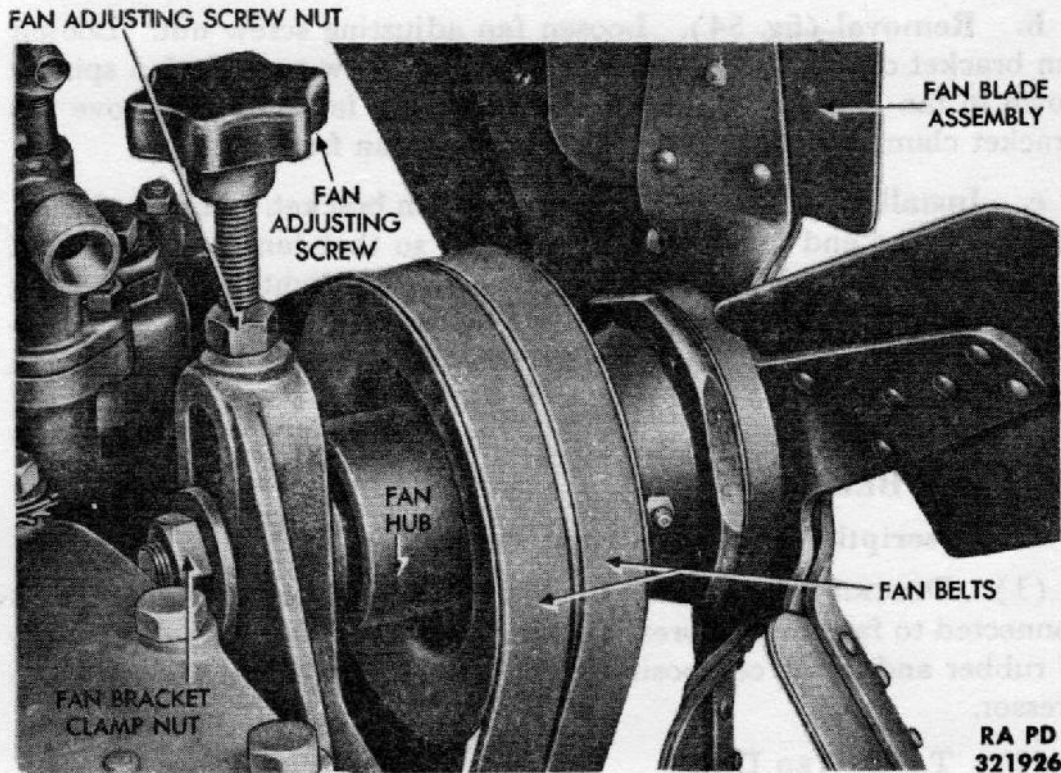

Figure 54 — Fan Belt Adjustment
(1) **DESCRIPTION** (fig. 54). The fan is mounted on a bracket at front of the engine. It is a roller bearing type, and is belt driven by a double V-belt pulley on the engine accessory shaft. Its purpose is to cool liquid coolant by drawing air through the radiator core and by keeping air circulating through the engine compartment.
b. Removal (fig. 54). Loosen fan adjusting screw nut. Loosen fan bracket clamp nut. Turn fan adjusting screw to force fan spindle down in fan bracket. Remove fan belts from fan hub. Remove fan bracket clamp nut and clamp washer. Lift fan from bracket.
c. Installation (fig. 54). Position fan in bracket. Loosely install clamp washer and fan bracket clamp nut so that fan may be moved freely in bracket. Place fan belts on pulleys. Tighten fan adjusting screw until fan belts flex $\frac{1}{2}$ to $\frac{3}{4}$ inch when pressed with fingers midway between pulleys. Tighten fan bracket clamp nut. Tighten fan adjusting screw nut.
(1) **DESCRIPTION** (fig. 54). Fan belts are mounted on pulleys connected to fan, air compressor, and accessory drive shaft. They are of rubber and fabric composition, and serve to drive fan and air compressor.
b. Adjustment (fig. 54). Loosen fan adjusting screw nut. Loosen fan bracket clamp nut. Turn fan adjusting screw clockwise to tighten, counterclockwise to loosen. Belt deflection permissible is between $\frac{1}{2}$ and $\frac{3}{4}$ inch. After adjustment is made, tighten bracket clamp nut and fan adjusting screw nut.
c. Removal (fig. 54). Loosen fan bracket clamp nut and fan adjusting screw. Turn adjusting screw to force spindle down. Lift belts from pulleys.
d. Installation (fig. 54). Position belts on pulleys. Turn adjusting screw until belts have $\frac{1}{2}$ to $\frac{3}{4}$ flex at middle position when pressed with fingers. Tighten fan bracket clamp and fan adjusting screw nut.